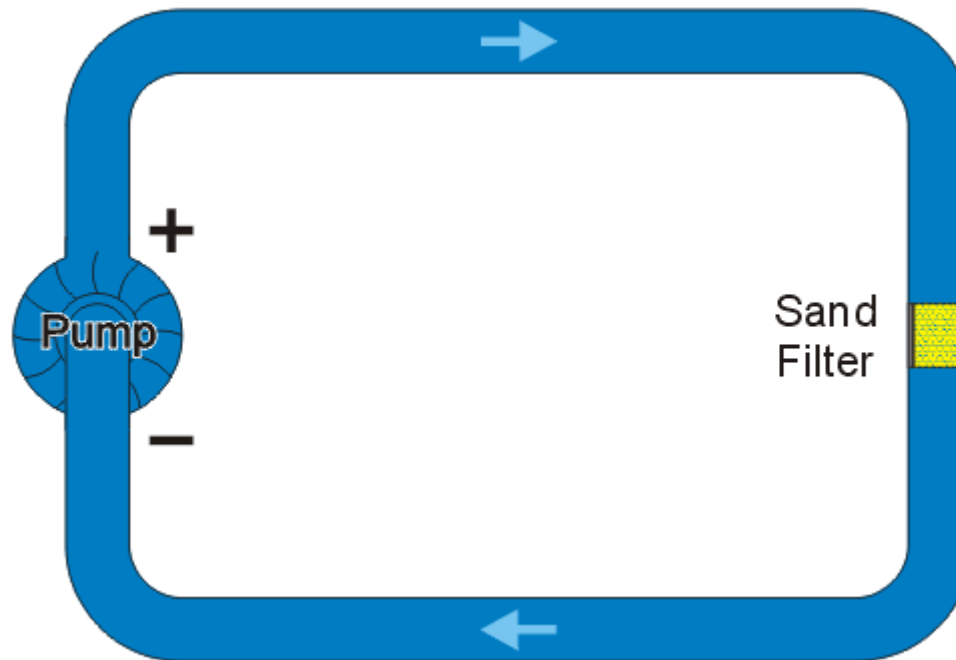

Fig 2: Loop of water with a sand filter
- Consider a pump in a closed loop of water which contains a sand filter as shown in **Fig.2**.